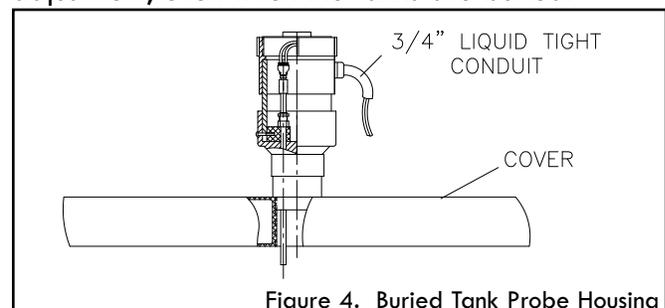

Figure 4. Buried Tank Probe Housing
**F4.** Run liquidtight, flexible electrical conduit, suitable for underground use, from the probe housing to the inventory meter control box. (See Figure 4.)